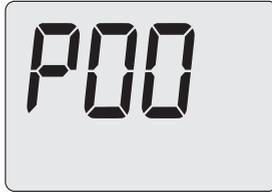
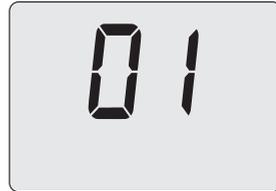
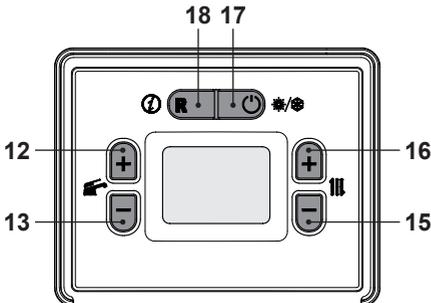

Figure 5.48
Figure 5.50
Figure 5.47
- Enter “programming mode” by holding down 17 and 18 for 5 seconds at the same time (Figure 5.47). The code **P00** appears on the display, indicating entry into “parameter P00” (Figure 5.48).
- Press 16 (Figure 5.47) to show the value of parameter P05 on the LCD display (Figure 5.50).
- Press 12 or 13 (Figure 5.47) to confirm the value entered and return to the list of parameters (Figure 5.49).
- Press 17 (Figure 5.47) to exit “programming mode”.